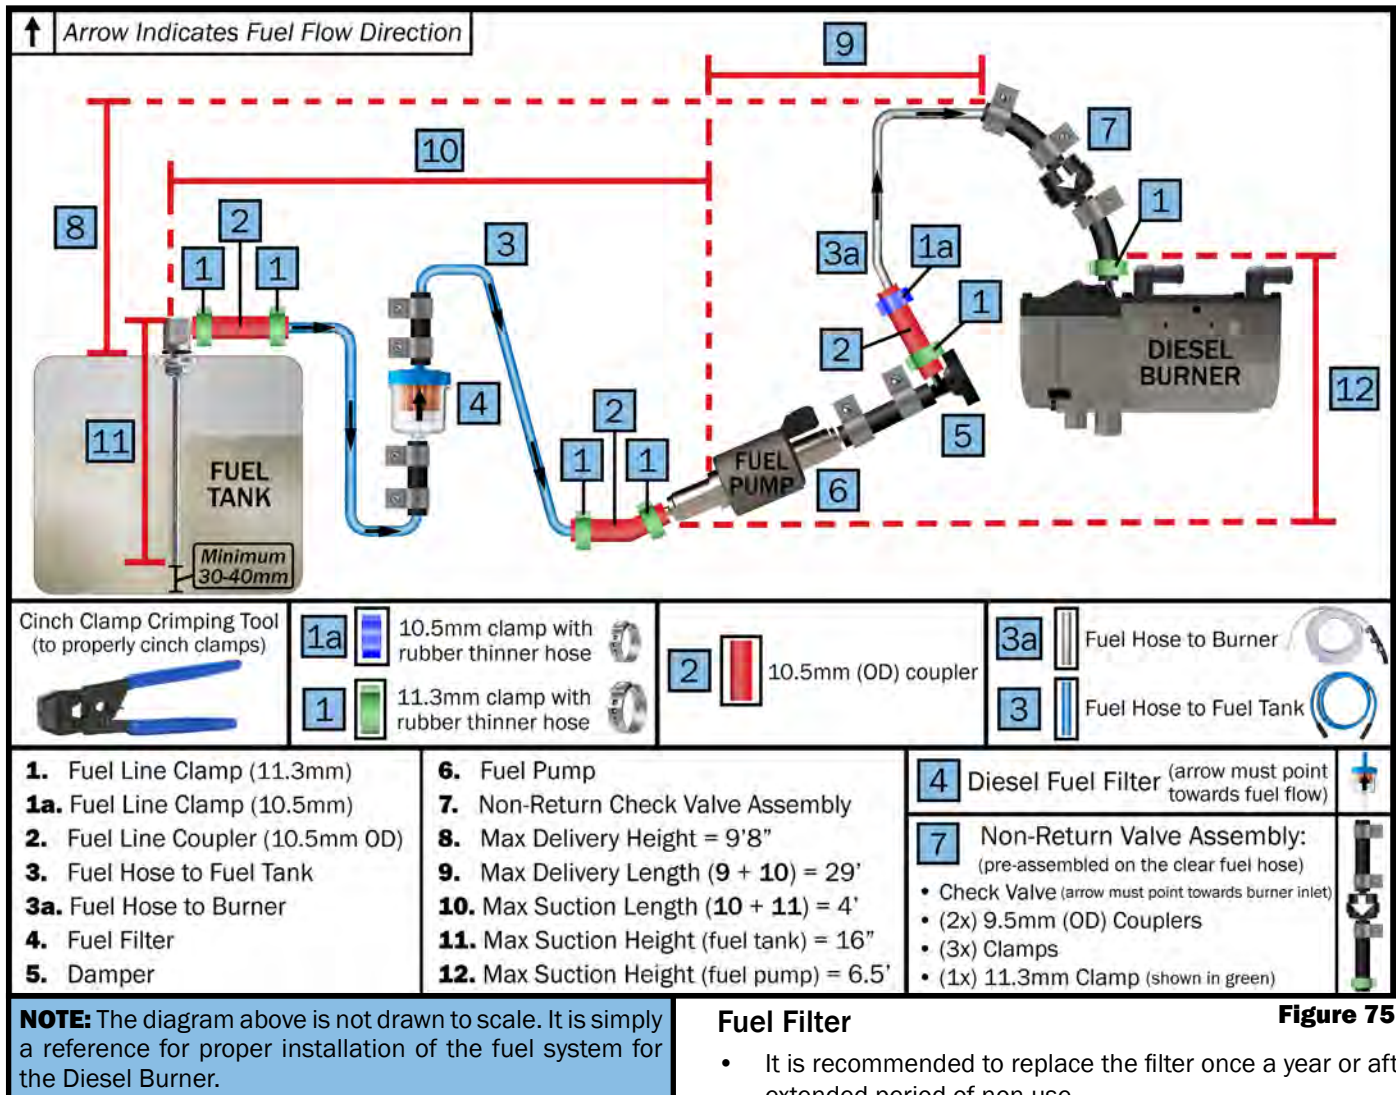

Figure 75
- The fuel filter should be installed before the fuel inlet of the fuel pump. Make sure orientation and position of the filter is accurate with the flow of fuel. Reference Figure 75 & 79.
- Use the provided Ø4mm x 1mm (to heater - transparent) fuel hose and Ø2mm x 5mm (to fuel tank - blue) fuel line with the included couplers and clamps. See Figures 75 & 76.
- The fuel hose should not be descending from the fuel pump to the burner - see Figure 75.
- The fuel line must be secured to the connections and couplers by hose clamps. See Figures 75 & 76.